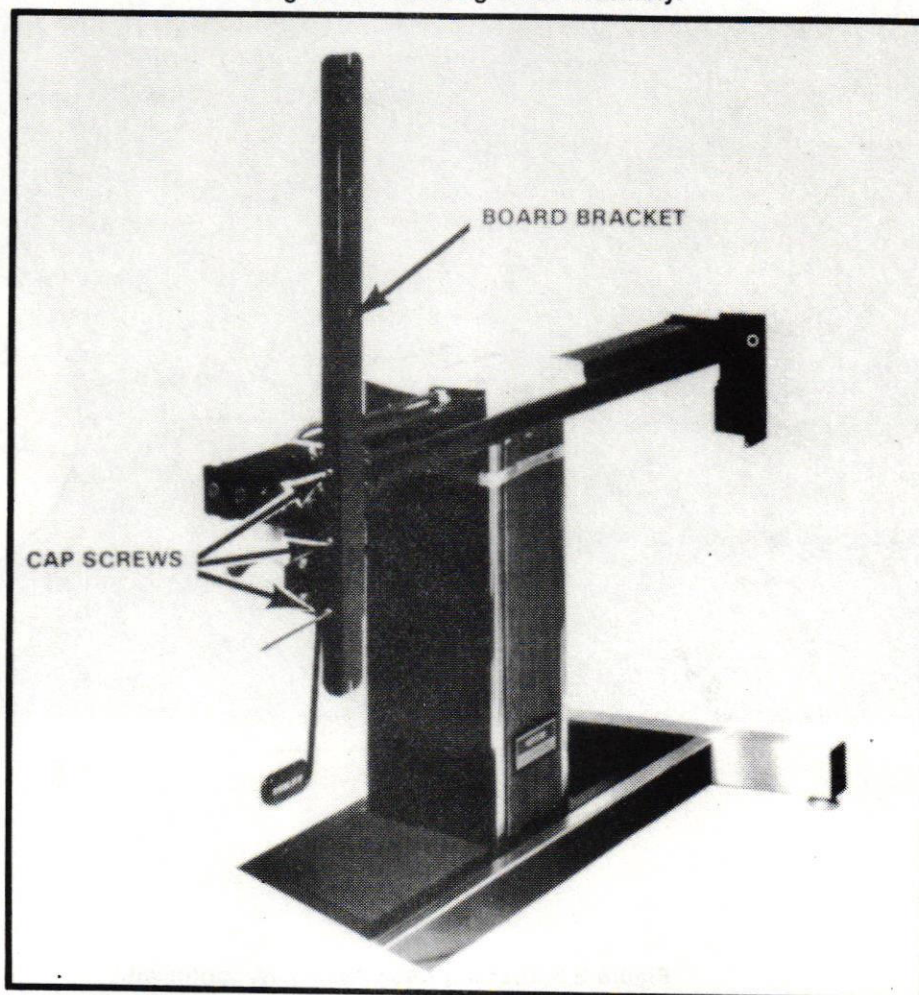

Figure E-2. Drafting Base Assembly, continued.
10. Fasten the board brackets to the tilt brackets with the bolts provided (Figure E-2).